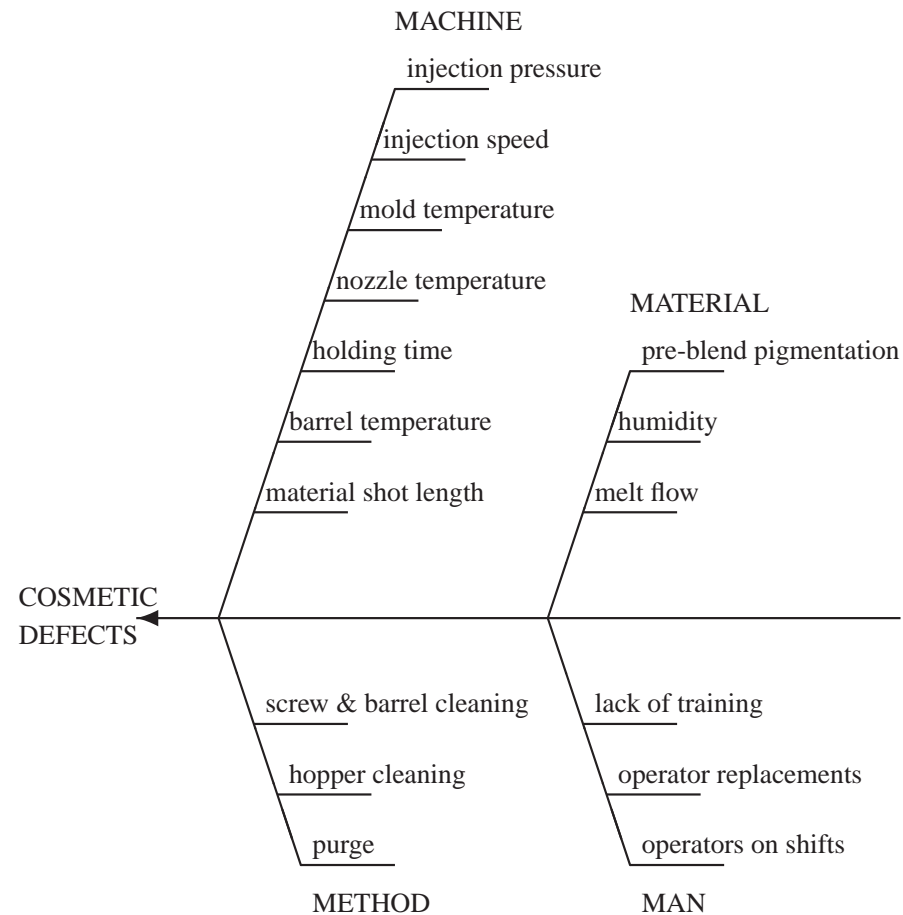

Figure 1: Cause-and-Effect Diagram, Injection Molding Experiment
- Use flow chart or cause-and-effect diagram (see Figure 1).